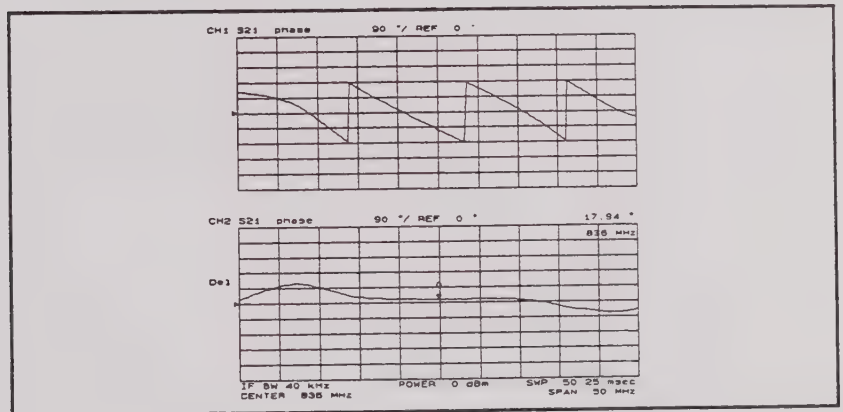

Figure 4-8. Electrical Length Adjustment
4. Press **[Display]** **DUAL CHAN on OFF** to **ON** off to display the results before and after the adjustment. The results are shown in Figure 4-8.
You can also determine the electrical length by pressing **[Scale Ref]** **ELEC DELAY MENU ELECTRICAL DELAY**. Then turn the rotary knob until the displayed trace is flat (see Figure 4-8). It may take many revolutions of the knob before the trace is flat.